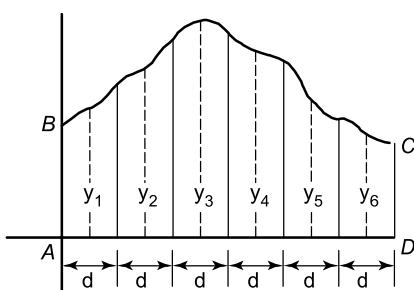

Figure 15.3
To determine the area $ABCD$ of Figure 15.3 using the mid-ordinate rule:
- Erect ordinates in the middle of each interval (shown by broken lines in Figure 15.3)